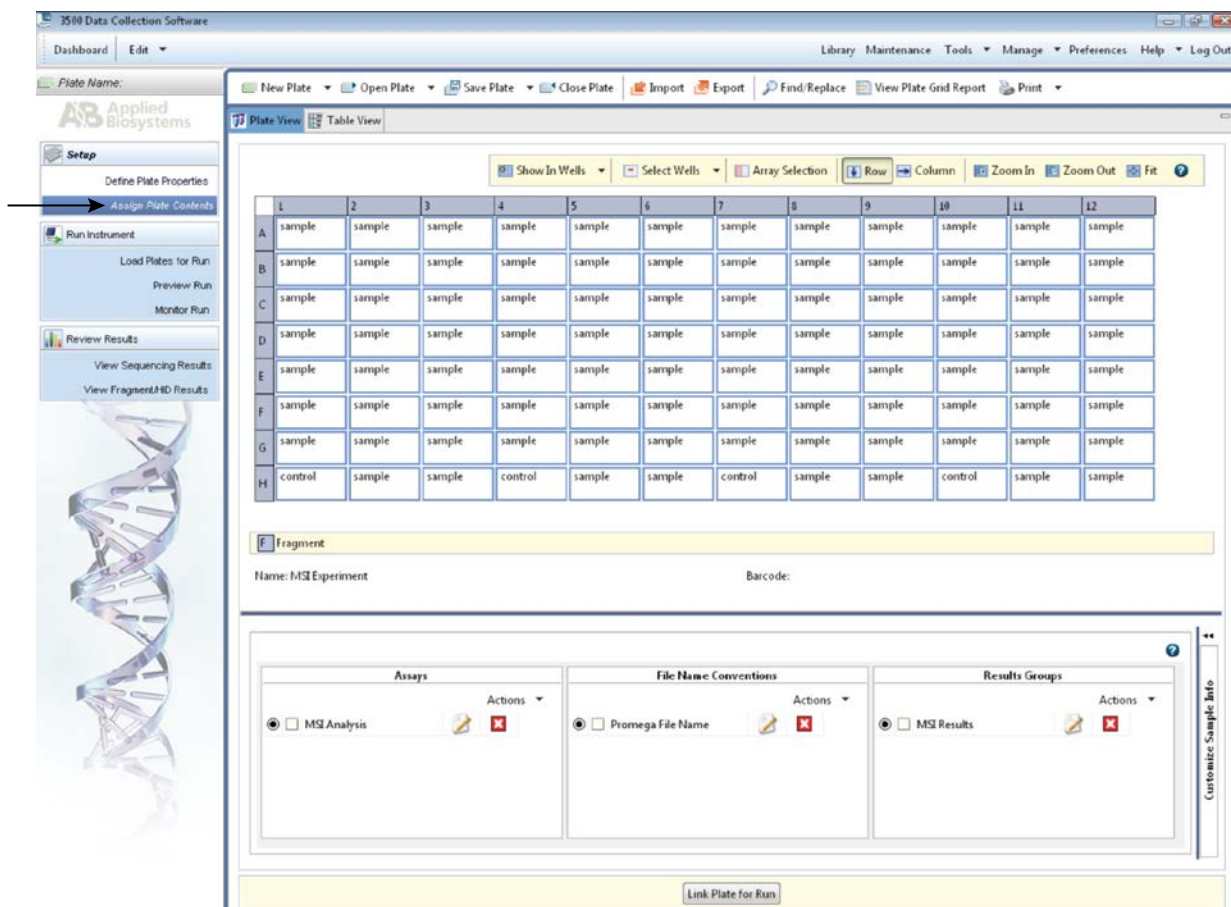

Figure 12. Assigning plate contents.
- In the lower left portion of the screen (Figure 12), under “Assays”, use the Add from Library option (not shown) to select the Assay created in Step 5. Click on the Add to Plate button, and close the window.